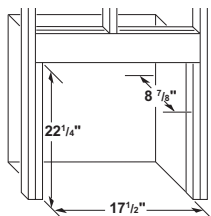
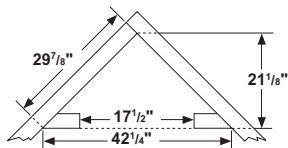

Figure 7 - Rough Opening for Installing in Wall
Figure 8 - Rough Opening for Installing in Corner
1. Frame in rough opening. Use dimensions shown in Figure 7 for the rough opening. If installing in a corner, use dimensions shown in Figure 8 for the rough opening. The height is 22 $\frac{1}{4}$ " which is the same as the wall opening above.